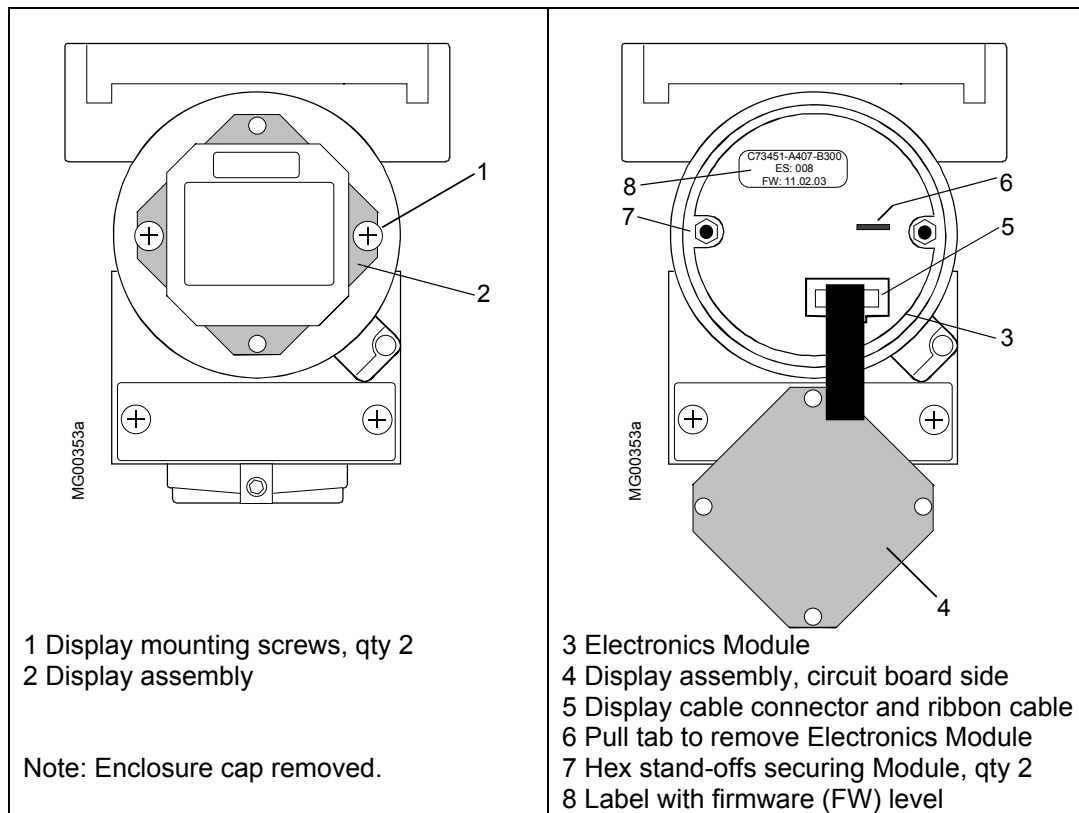
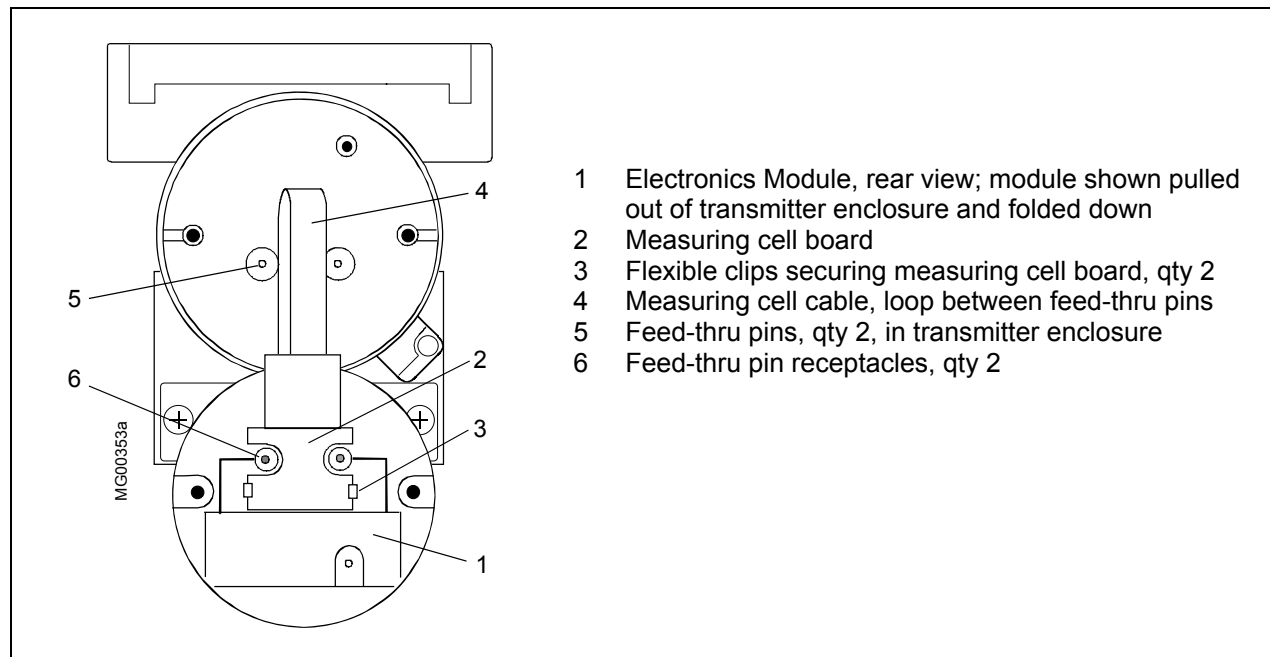

FIGURE 7-2 Display Assembly Installed and Partially Removed
FIGURE 7-3 Electronics Module Removal and Installation
4. While holding the display assembly, loosen and remove the two Phillips-head screws securing the display circuit board to two hex stand-offs. See Figure 7.2.
3. Refer to Figure 7-2 and remove the two hex standoffs (7) using a 3/32" (2.5 mm) hex wrench. Grasp the pull tab (6) and withdraw the electronics module (3) from the enclosure. As shown in Figure 7-3, the measuring cell cable (4) is several inches long. Fold the module down so the back of the assembly is visible, as shown.